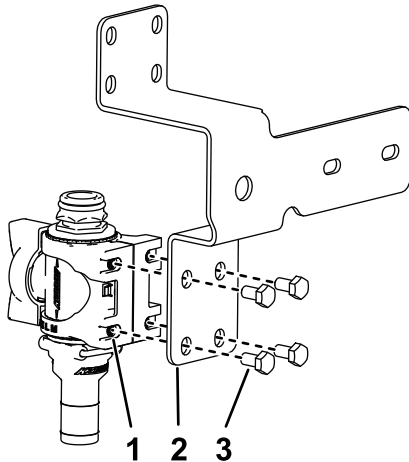

Figure 28
7. Assemble the valve mount to the included control-valve bracket (Figure 28) with the 4 flange-head bolts (M6 x 12 mm); torque the bolts to 10 to 12 N·m (86 to 106 in-lb).